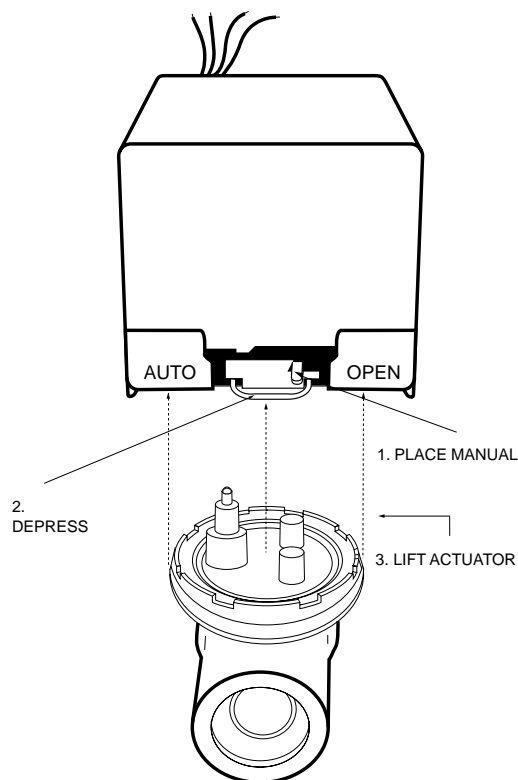

Fig. 8 Removing actuator from valve
REMOVING ACTUATOR FROM THE VU-SERIES VALVE BODY ASSEMBLY (See Fig. 8):
2. Place the manual operating lever in the MAN. OPEN position. See Fig. 8.